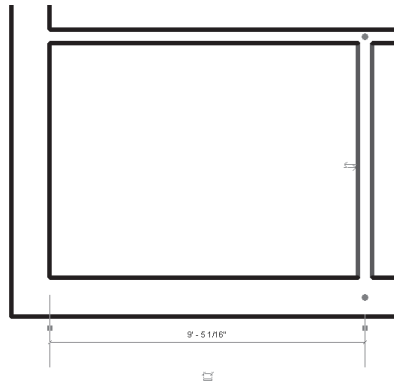
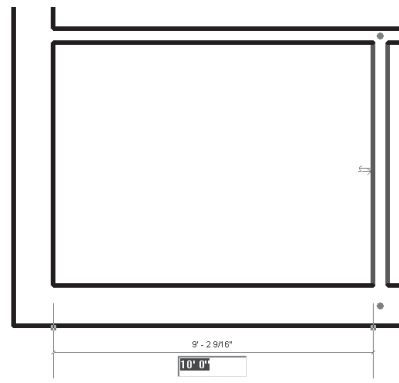

Figure 3-59 Moving the witness lines
Figure 3-60 Specifying the distance
- f. Edit the interior walls location to achieve clear internal distances, refer to Figures 3-59 and Figure 3-60.
2. Two blue square dots define the extents of the dimension. Click on the square dot on the left. The dot and dimension witness line moves to the interior face of the exterior wall, as shown in Figure 3-59.
4. Now, click on the temporary dimension and enter the value **10'0"**. The interior wall is moved to the desired distance 10'0" from the interior face of the exterior wall, as shown in Figure 3-60.